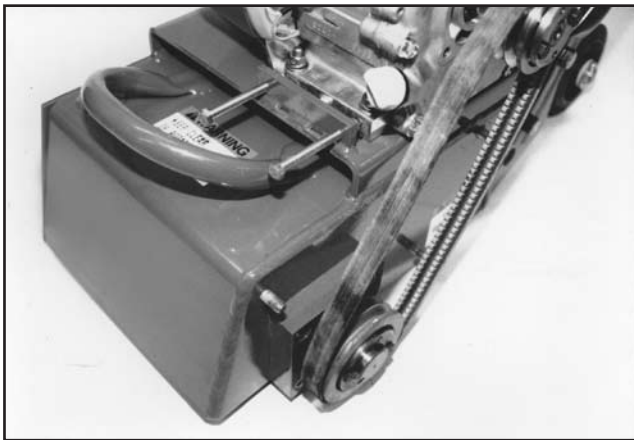

FIGURE 30
4) Using the 1/2 inch wrenches, loosen the engine/ electric motor attachment cap screws, and slide the engine/electric motor toward the front of the main frame. FIGURE 30.